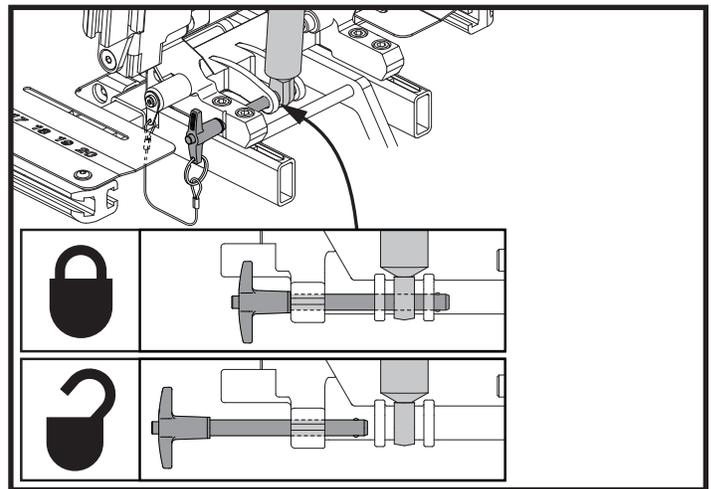
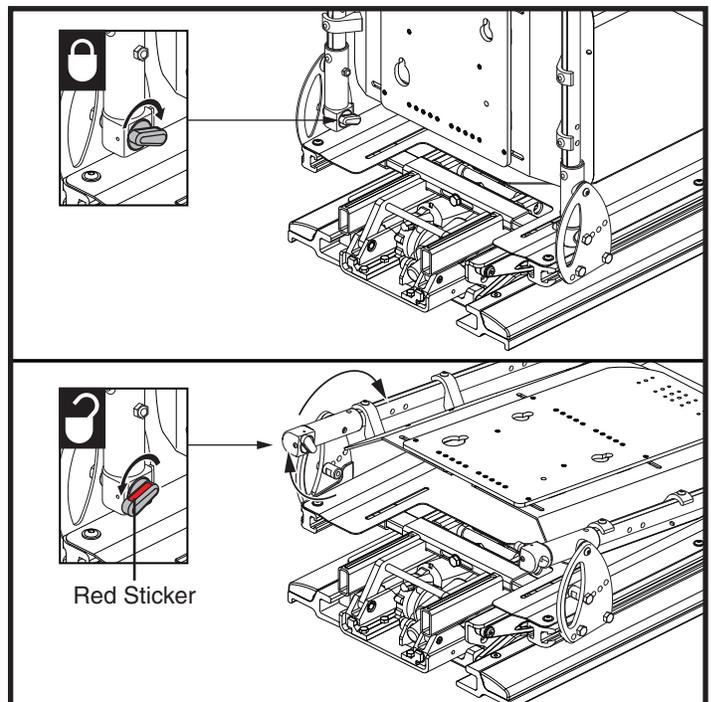

Figure 6. Flip-forward Back (Detent Pin)
Figure 7. Flip-forward Back (Release Lever)
1. Remove the detent pin (**see figure 6**) OR rotate the release lever on both back canes toward the rear of the seat to disengage the back. **See figure 7.**
2. Reinstall the detent pin and ensure all components are secure (**see figure 6**) OR rotate the release lever on both back canes toward the front of the seat to latch the back canes. Ensure a red sticker on the release lever is not visible. **See figure 7.**